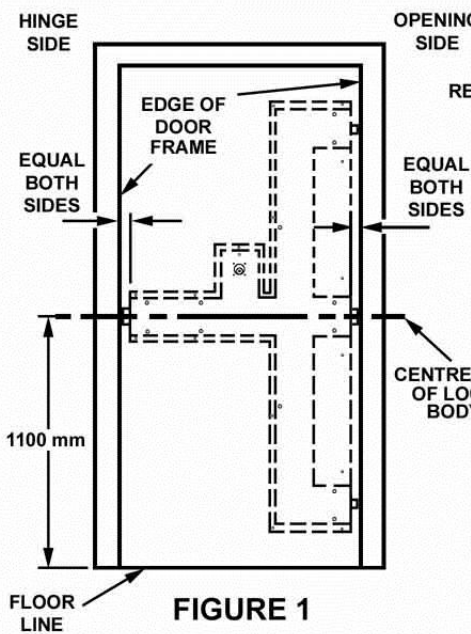

FIGURE 1
2. **Mark centreline of Lock across inside of door at desired height (nominally 1100mm from floor to centreline of Handle). (Fig. 1)**
4. **Position Lock onto door at pre-determined height & such that the clearance between Lock Body & door jamb is equal on both sides. (Fig. 1) Fix Lock to door using only three self-tapping screws or for Model 410 Locks (no Lock Cylinder required) use all self-tapping screws to fix Lock to door.**